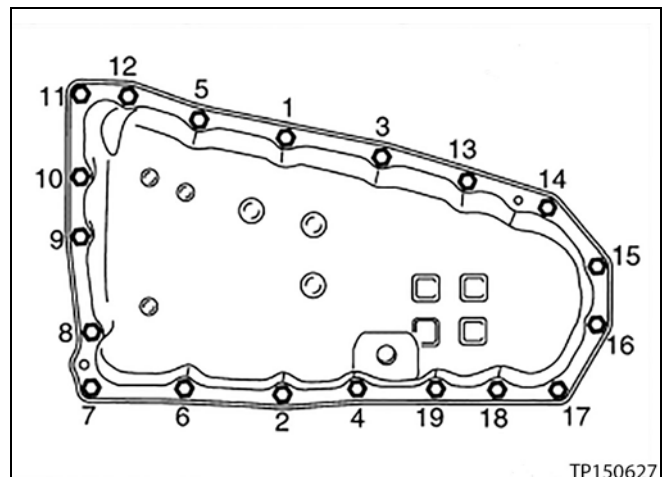

Figure 26
12. Install the oil pan bolts (see Figure 26).